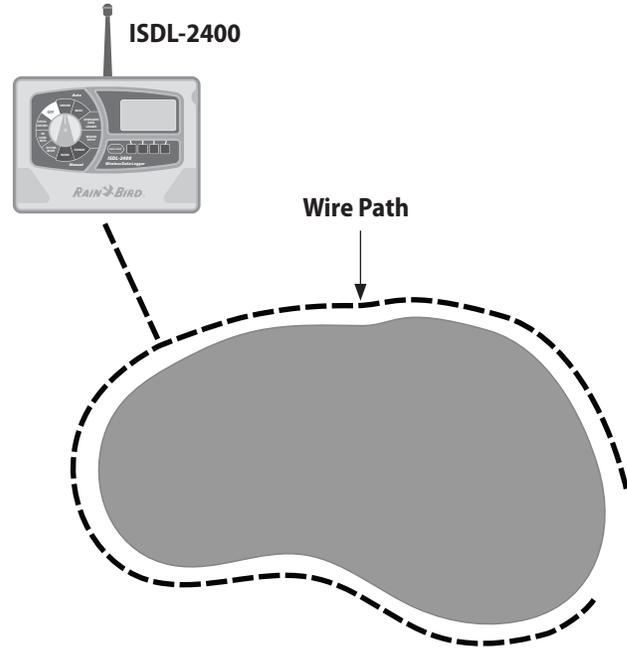

Figure 10 - Wire Path Installation
- 1 Using a spade, sod cutter with blade mole kit, or a vibratory plough, lay cable around the green deep enough to avoid damage from aerification as shown in Figure 10. Start at either the data logger or the furthest valve box location.